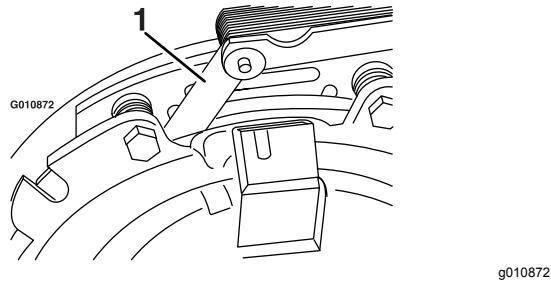
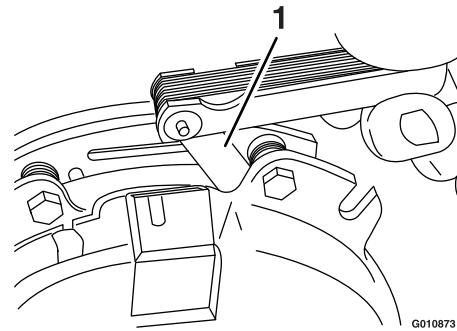

Figure 73
Figure 74
E. Using a 0.25 mm (0.01 inch) thick feeler gauge, verify that a gap is present between the rotor and the armature face on both sides of the brake pole as shown in Figure 73 and Figure 74.